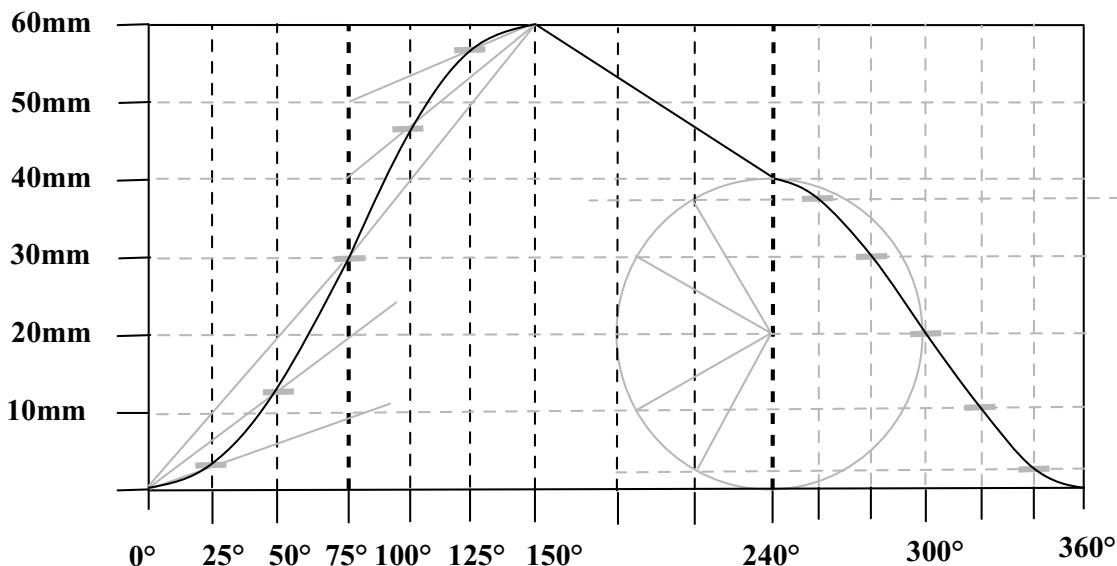

Fig. 3(d)(i)
- (ii) See pro forma sample answer Fig. 3(d)(ii)